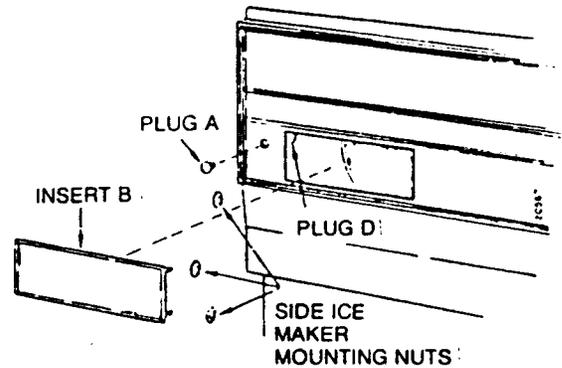

Figure 3 Inside view of freezer compartment
4. Remove the light shield from the freezer by grasping at both ends and pulling the bottom out until the shield pulls free of the retainer tabs, then pry the round plug 'A' and the rectangular insert 'B' from the shield (see figure 3).